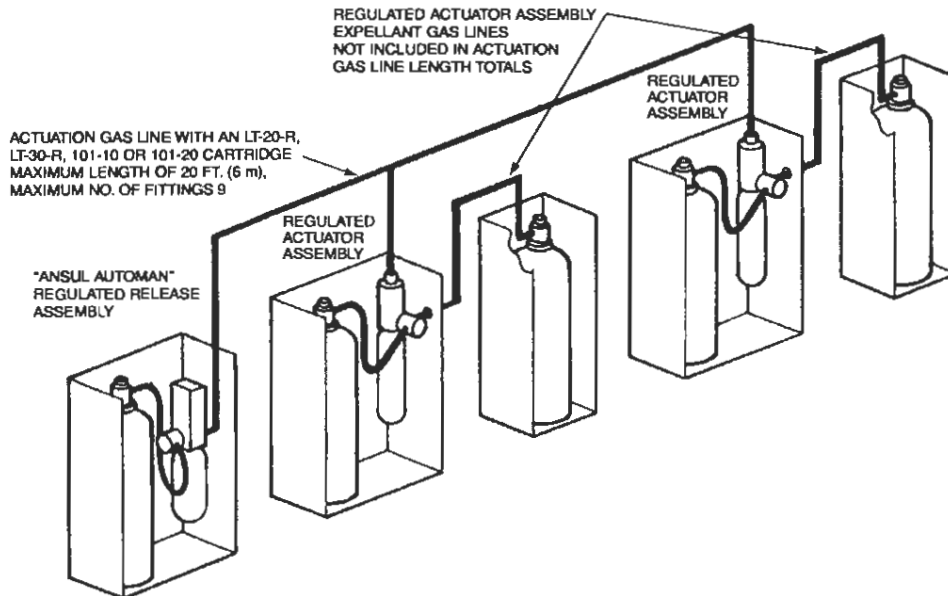

FIGURE 100
2. The actuation gas line piping is installed from the regulated release mechanism to each regulated actuator connected within the system. The total length of the actuation gas line from the regulated release assembly to the regulated actuator assembly(ies) must not exceed 20 ft (6 m) when using an LT-20-R, an LT-30-R nitrogen cartridge, or a 101-10 or a 101-20 carbon dioxide cartridge. See Figure 100.